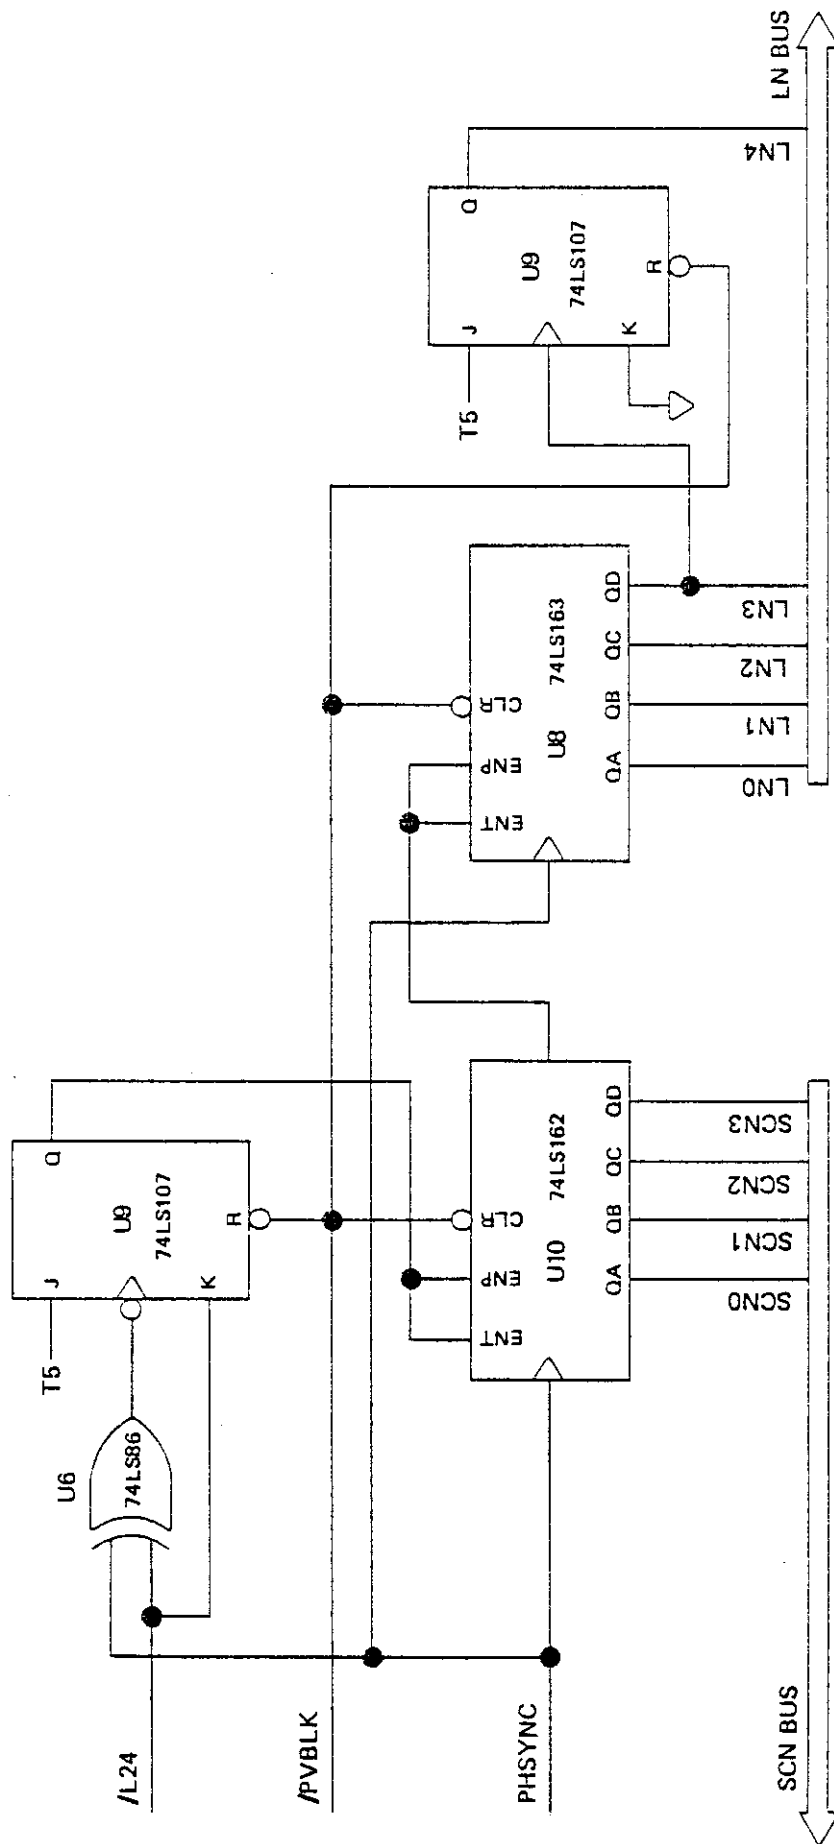

FIGURE III-11 LINE SCAN COUNTER
1) SCAN/LINE COUNTER: The circuit shown in Figure III-11 is the scan/line counter. It counts the ten scans in each line and the 12 or 24 lines in each page. The scans are counted by a 74LS162 decade counter operating in its fundamental mode. When a 24 line format is selected the count is advanced once for each raster scan. When a 12 line format is selected the count is prescaled by a 74LS107 J-K flip flop configured as a modulo-2 divider. In this case the count is advanced once for every other raster scan. The outputs of the 74LS162 drive the SCN bus to provide scan number information to the character generator circuitry. The lines of characters on a page are counted by a five bit counter consisting of a 74LS163 and a 74LS107. The outputs of this counter drive the LN bus to provide information for computing character addresses.